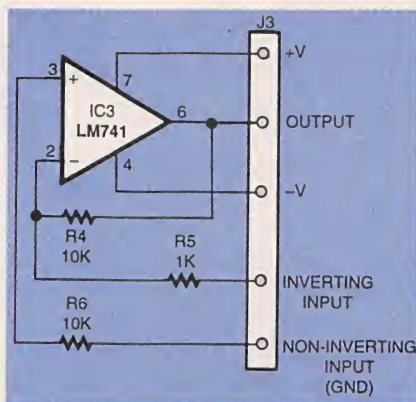
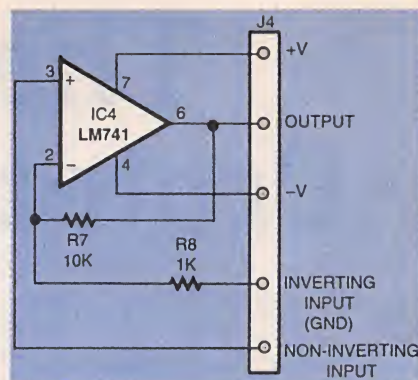

Fig. 3. An inverting op-amp is one of the staples of analog circuit design.
Fig. 4. A non-inverting op-amp makes a handy impedance-matching circuit. The gain can easily be changed by substituting different resistor values.
**The Op-Amps.** The operational amplifier is among the most widely used analog circuits; two versions have been included with the BreadBlox. An inverting op-amp circuit is shown in Fig. 3, while a non-inverting circuit is shown in Fig. 4. Although the two circuits are very similar, there are minor differences between them. Both have a feed-